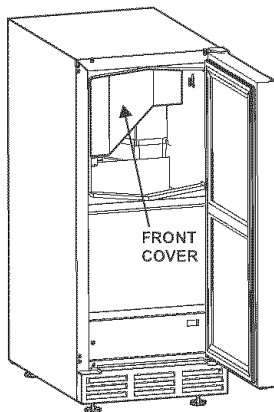

Figure 33
- 3 Remove inside front cover (see **Figure 33**).